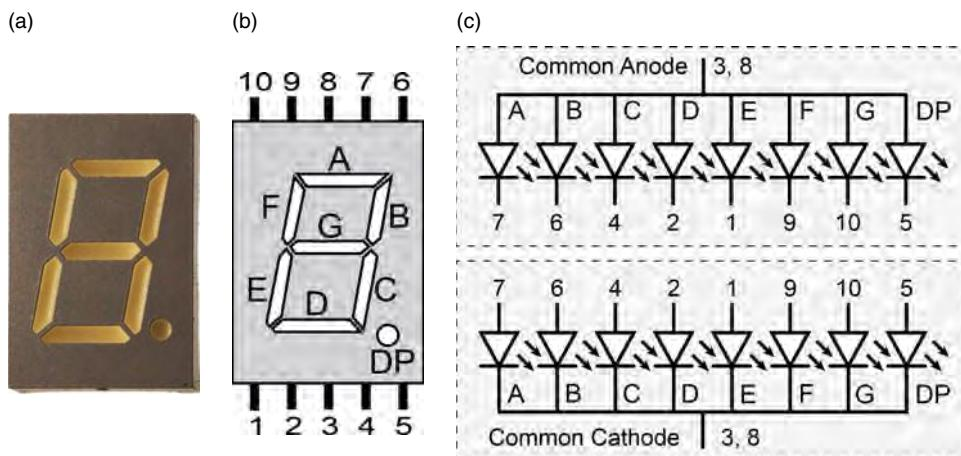
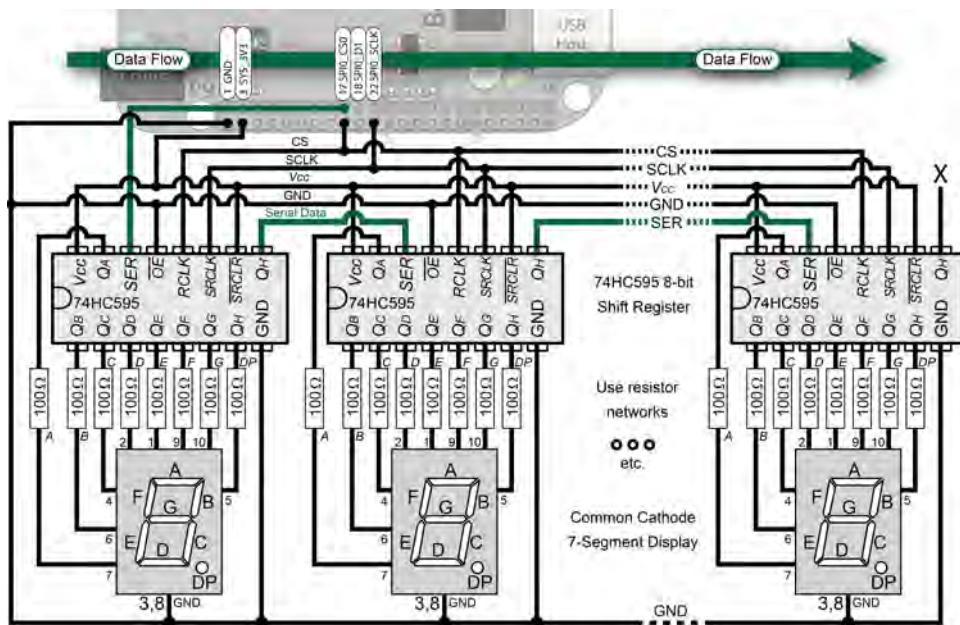

Figure 9-17: (a) Seven-segment display; (b) typical pin ordering; (c) typical common anode and cathode display configurations
Figure 9-18: SPI interfacing to arrays of common cathode seven-segment displays using daisy-chained 74HC595 8-bit serial shift registers
Seven-segment displays typically consist of eight LEDs that can be used to display decimal or hexadecimal numerals with a “decimal” point. They are available in a range of sizes and colors, with a typical example displayed in Figure 9-17(a). The segments are typically labeled as in Figure 9-17(b).
Seven-segment displays are described as being either *common cathode* or *common anode* displays. This means that the cathodes or anodes of the array of LEDs that make up the display are connected together as in Figure 9-17(c). You should not limit the current passing through the display by placing a single resistor on the common anode or the common cathode connection, as the limited current will be shared among the segments that are lighting. This results in an uneven
Figure 9-18 illustrates a wiring configuration that can be used to connect an array of common cathode seven-segment displays to the BBB using its SPI interface. This is similar to the circuit in Figure 8-5, with the exception that the 74HC595 ICs are *daisy-chained* (i.e., the serial output of one stage is applied as the serial input to the next stage) by connecting the serial output $Q_{H'}$ from one stage to the SER input of the next stage. If there are three seven-segment displays in this configuration, then it is necessary to shift 24 bits (3×8 bits) to the BBB SPI0_D1 output before latching the 74HC595s using the BBB's SPI0_CS0 line.
For example, `0b00111111` displays the zero symbol, as all segments are on, except for the “decimal” point (DP) and the center segment (G)—see Figure 9-17(b). The code in Listing 9-8 provides an example of how to use an array of common cathode seven-segment displays, as shown in Figure 9-18. The constructor of the `SevenSegmentDisplay` class requires an `SPIDevice` object and the number of segments that are present in the display circuit.
If the circuit is built as in Figure 9-18 (but with two segments) and attached to the SPI0 bus, then the code in Listing 9-8 counts in hexadecimal in steps of 1 until it reaches 0xFF, whereupon it counts in decimal from 0.0 to 9.9 in steps of 0.1. This demonstrates the range of functionality that is available in the class. The DP segment lights as required—it can act as a “decimal point” for any base used. To build and execute this code, you must first ensure that the SPIDEV0 virtual cape is loaded:
The class can also be used with common anode display modules. The modules would be wired exactly as in Figure 9-18; however, pin 3 or 8 would be connected to the +5V line—see Figure 9-17(c). The role of the 74HC595 would then be to sink current in order to light one of the LED segments. For example, if the output of Q_H on the 74HC595 is logic high, then the DP will not be lit, as both the cathode and anode of the LED will be at a 5V level and the LED will not be forward-biased. However, if Q_H is logic low, then the anode of the DP will be at +5V and the cathode will be at 0V. The DP segment will then be forward-biased and will light. Therefore, the code to drive a common anode seven-segment display simply inverts the bits in the number that is sent to the 74HC595. For example, the number 0 is 0b00111111 for a common cathode display and 0b11000000 for a common anode display.